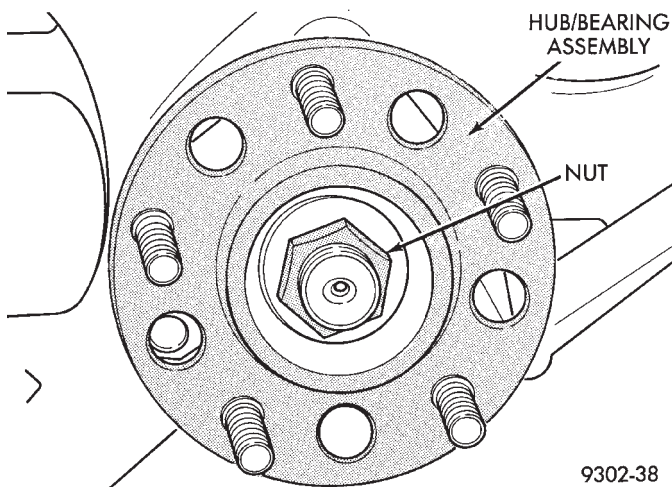

Fig. 16 Hub And Bearing To Stub Axle Retaining Nut
CAUTION: The hub and bearing assembly to stub shaft retaining nut (Fig. 16) is a prevailing torque nut and can not be re-used. A **NEW** retaining nut **MUST** be used when assembled.
(6) Install a **NEW** hub and bearing assembly to stub shaft retaining nut (Fig. 16). **Tighten, but do not torque the hub nut at this time.**